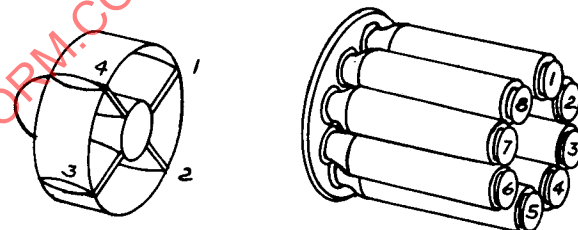

Fig. 2
- 4.1.2 Two or more similar units arranged around the engine are identified by numbers which start at the top center line and progress clockwise when viewed from the rear of the engine. If there is no unit on the top center line, numbering begins with the uppermost unit on the right hand side. (See Fig. 2)